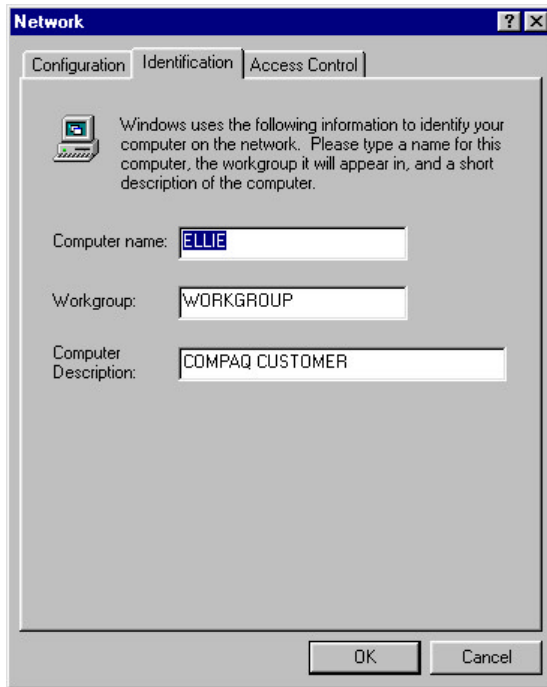

Fig. 5: Network identification in Windows 95/98
Both the DVRG and the computer need to have different “Computer names” given to. The workgroup assignment can be the same or different. All network settings are found in the Control Panel’s “Network” folder or in the “Properties” menu after right mouse click on the “Network Neighborhood” icon. Choosing the tab called “Identification” gives access to the workgroup and computer’s names as shown in Fig. 5 & 7 for Windows 95/98 and NT®.
- Network identification (according Fig.5, 6 and 7)